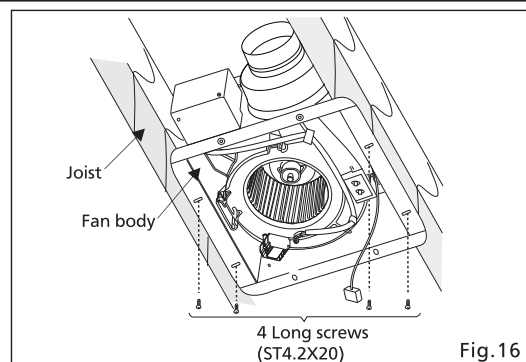

Fig. 16
2. Secure 4 long screws (ST 4.2X20) at flange of frame. (Fig. 16)